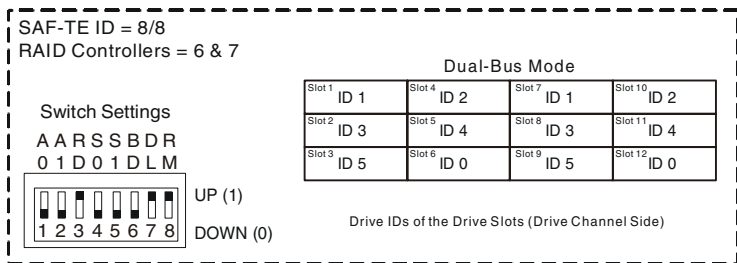

Figure C-6 Switch Setting – Primary RAID Enclosure (DuraStor 6320SS)
- 2 Locate the switches on each card and set them as shown in Figure C-6.